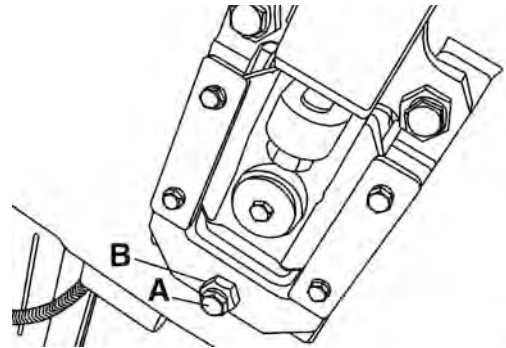

FIGURE 7
The blade is tracking properly when the back of the blade is just lightly touching the wheel flanges of both wheels while the machine is running. If the blade is not touching the wheel flanges, loosen hex. bolt (A) Fig.7, then tighten or loosen the special hollow hex. bolt (B) until the blade tracks properly.